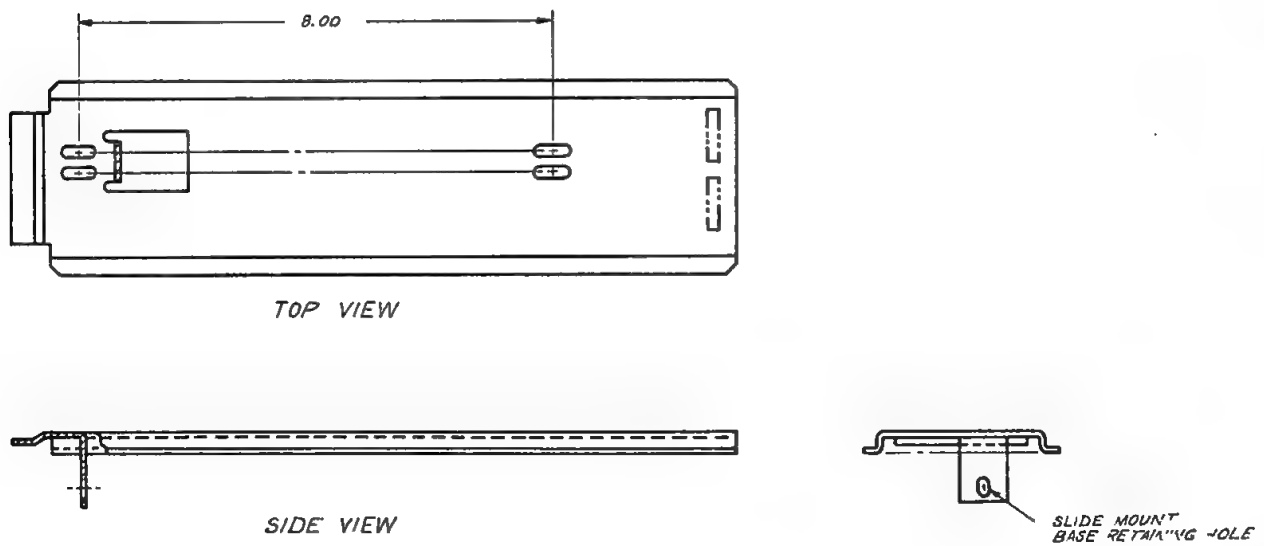

Figure 2-11. Peripheral Slide Mount Base
- f. Install the drive mount base on the peripheral to be installed. The drive mount base should first be centered on the base of the peripheral, then attached with 8-32 x 1/4" screws, see Figure 2-11.